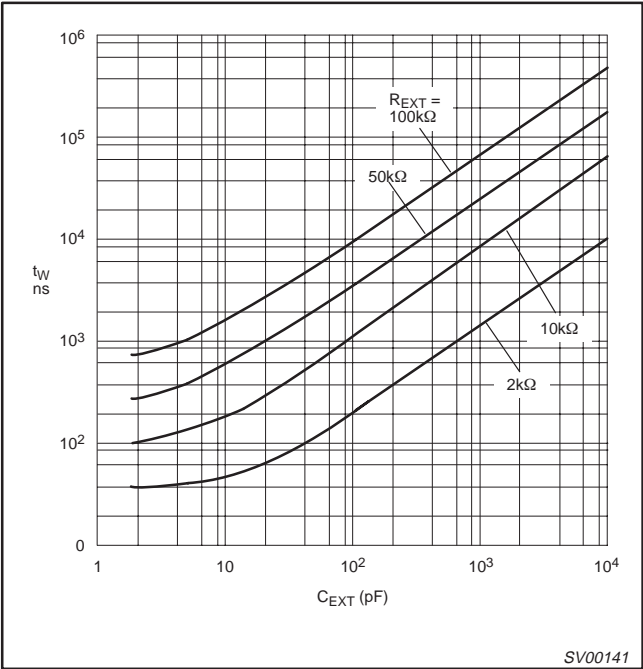

Figure 6. Typical output pulse width as a function of the
4. For other R_{EXT} and C_{EXT} combinations see Figure 6.